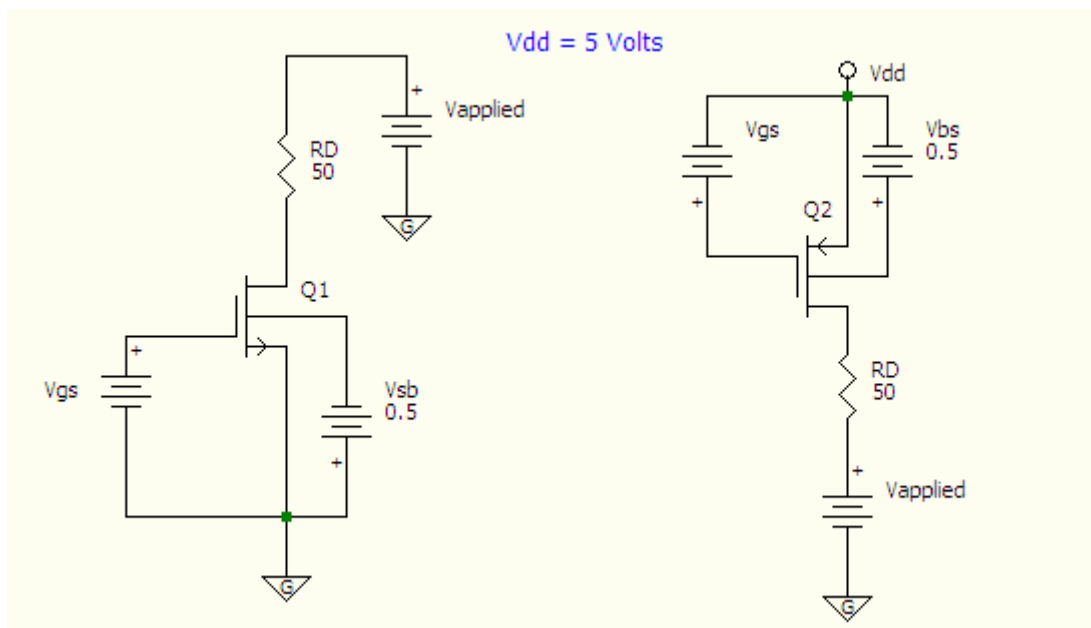
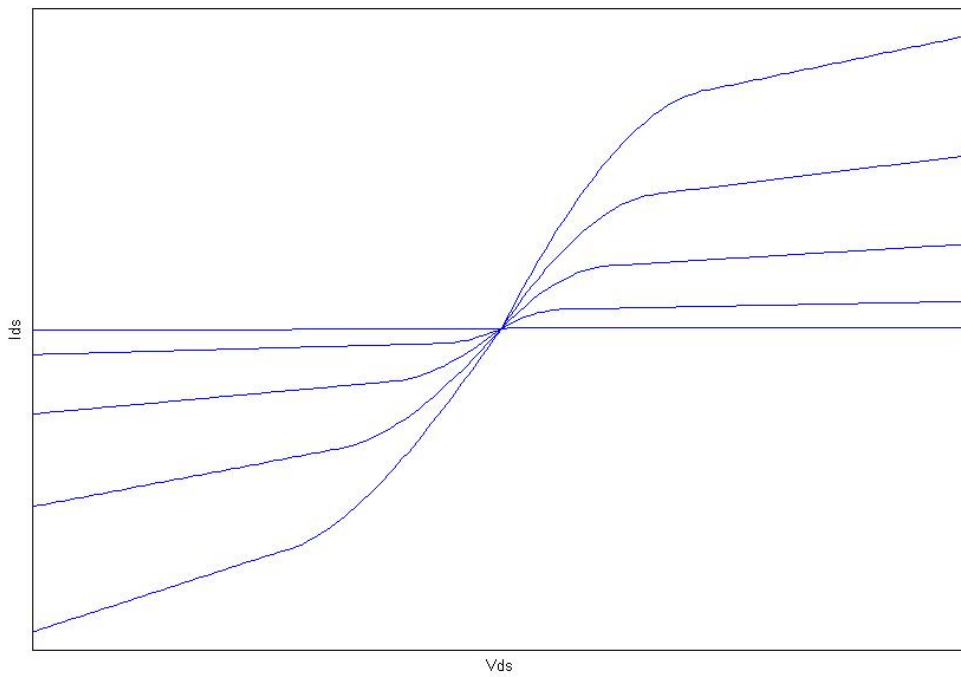

Figure 3 V_{ds} vs I_{ds} investigation for NMOS and PMOS
Figure4 An Exemplary V_{ds} vs I_{ds} curve
b) Using the given parameters above, write a MATLAB program to plot I_{ds} vs V_{ds} for the circuits given in Figure3. $V_{applied}$ might vary in between 0 and $V_{dd} = 5$ Volts. On the same figure plot for different V_{gs} voltages. $|V_{gs}|$ might take values in between 1Volt up to 3Volts. Do not forget to handle the body effect. For another $|V_{sb}|$ you may choose, comment about the influence of the body effect on I_{ds} vs V_{ds} curves. Attach your code. Your graphs will look like the following (Figure4), clearly indicate each V_{gs} voltage that you have used. Make all necessary assumptions. Ignore the voltage drop over the resistance (RD) at the drain sides. You may artificially add the effect of channel length modulation in linear region as well to avoid the discontinuity at the transition.
a) The student has an NMOS device. He builds the same circuit given in Figure3 (circuit for the NMOS transistor) to estimate the channel length modulation (λ_n) of his NMOS transistor. He assures that his transistor is in saturation ($V_{sb}=0.5$ Volts, and $V_{gs}=2$ Volts) and measures the following values for V_{ds} vs I_d (Table 2). Extract the channel length modulation.
c) Now the student knows V_{th} , K_n and λ_n . The only parameter left is the body effect. In order to find it, he builds the same circuit shown Figure 3 but now with $V_{sb}=2.5$ Volts, and $V_{gs}=2$ Volts, for the NMOS transistor and measures I_{ds} vs V_{ds} (Table 4). Extract the body effect (γ_n). You may take $2\Phi_{Fn}=2\Phi_{Fp}=0.6$ Volts.